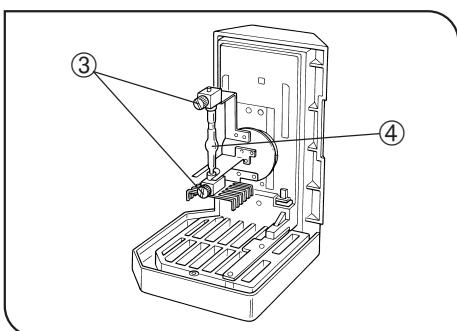

Fig. 17
- Loosen the socket clamping screw ① using the Allen screwdriver.
- ★ To prevent malfunction, do not hold the lamp housing by the centering knobs ②.**
- Place the socket section upside down as shown in Fig. 17.
- The lamp housing is equipped with the holder for transportation in the factory shipment condition or with an old burner when the burner is replaced. Remove the holder or old burner by loosening the two burner holding screws ③.
- Attach the + (positive) pole of a specified mercury burner ④ to the fixed mount on the upper side, then the - (negative) pole to the mount on the lower side.